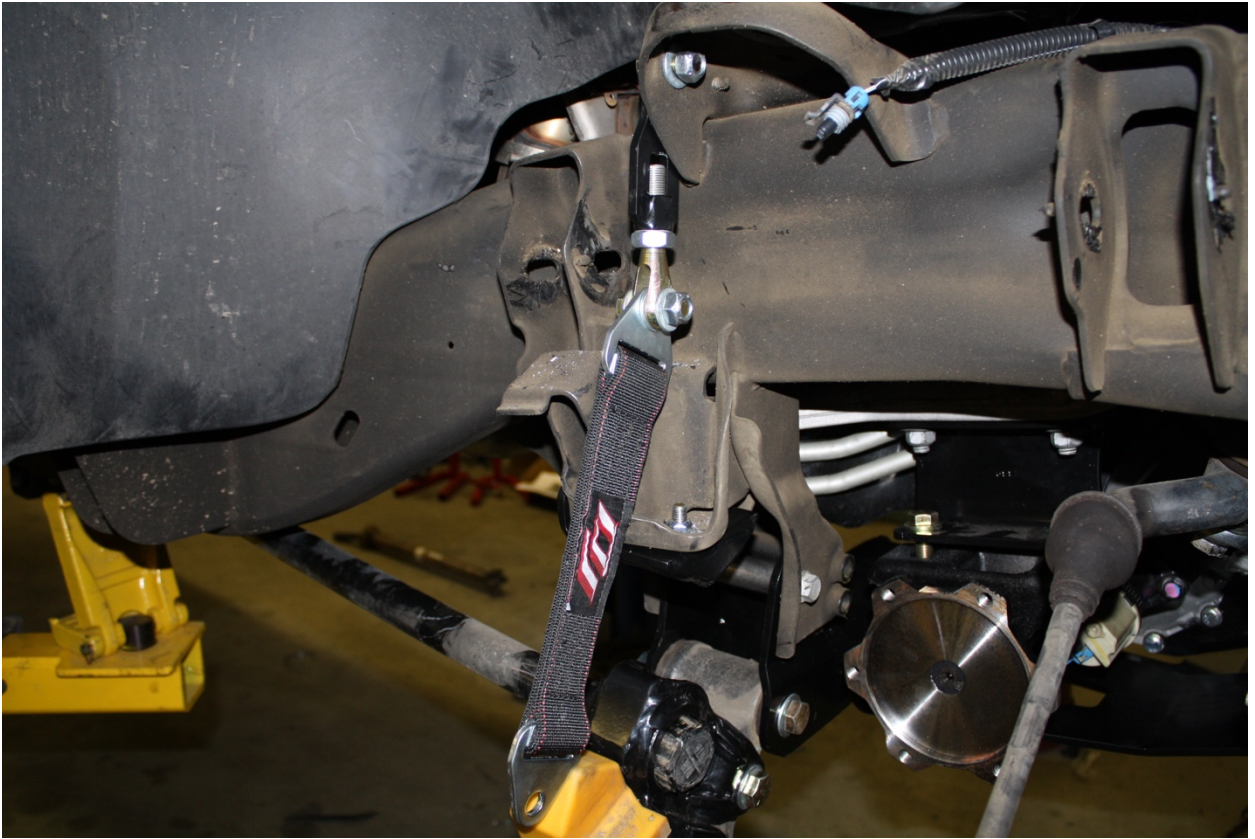

Figure 1
4. Loosely assemble the limit strap assembly to determine best mounting location, refer to figure 1 to visualize how the upper assembly goes together before continuing to read instructions. Thread the jam nut onto the clevis bracket about 1/2". Thread the clevis bracket into the threaded hole of the frame bracket until jam nut stops, so you are only threading together about 8 turns to leave plenty of adjustment to get shorter. Figure 1 shows the clevis threaded all the way into the frame bracket, do not do this because you will not have adjustment to get shorter, 9 out of 10 times you will have to shorten more than you think due to the amount of stretch the limit strap will have once you are finished. Use the 1/2" x 1.1/2" bolt to secure limit strap to clevis. Use an extra 1/2" washer to shim gap between inside of clevis and the limit strap tab if needed. See figure 1.
7. Hold the limit strap assembly in place on the rearward vertical part of the pocket so the limit strap lines up best with the rearward side of the lower shock mount bracket. With the limit strap stretched tight, mark the frame at the top with the hole of the upper limit strap mounting bracket. Figure 1 shows the general location where this upper mount hole will be drilled.